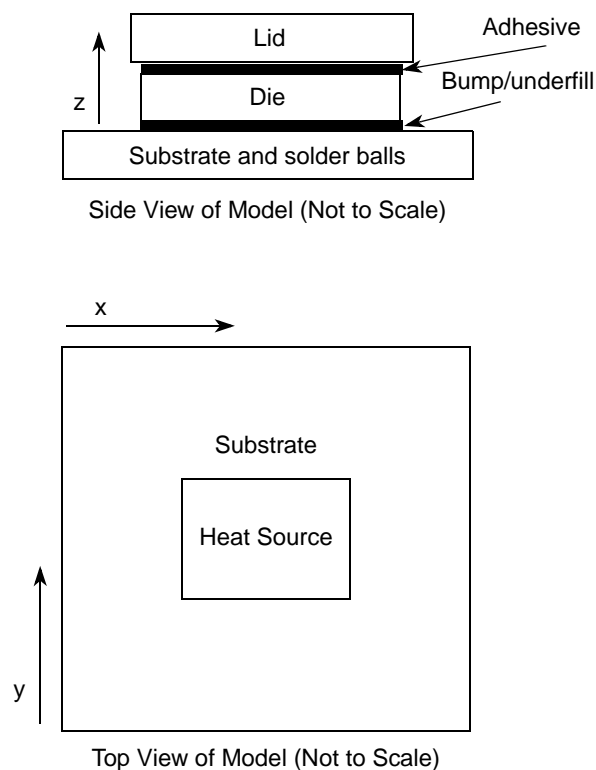

Figure 46. MPC8540 Thermal Model
2.0	<p>Section 1.1—Updated features list to coincide with latest version of the reference manual</p> <p>Table 1 and Table 2—Addition of SYSCLK to OV_{IN}</p> <p>Table 2—Addition of notes 1 and 2</p> <p>Table 3—Addition of note 1</p> <p>Table 5—New</p> <p>Section 4—New</p> <p>Table 13—Addition of I_{VREF}</p> <p>Removed Figure 4 DDR SRAM Input Timing Diagram</p> <p>Table 15—Modified maximum values for t_{DISKEW}</p> <p>Table 16—Added MSYNC_OUT to $t_{MCKSKEW2}$</p> <p>Figure 5—New</p> <p>Section 6.2.1—Removed Figure 4, “DDR SDRAM Input Timing Diagram”</p> <p>Section 8.1—Removed references to 2.5 V from first paragraph</p> <p>Figure 8—New</p> <p>Table 21 and Table 22—Modified “conditions” for I_{IH} and I_{IL}</p> <p>Table 23—Addition of min and max for GTX_CLK125 reference clock duty cycle</p> <p>Table 27 —Addition of min and max for GTX_CLK125 reference clock duty cycle</p> <p>Table 29—Addition of min and max for GTX_CLK125 reference clock duty cycle</p> <p>Table 30—VOH min and conditions; I_{IH} and I_{IL} conditions</p> <p>Table 31—Min and max for t_{MTXR} and t_{MTXF}</p> <p>Table 32—Min and max for t_{MRXR} and t_{MRXF}</p> <p>Figure 23 and Figure 24—Changed LSYNC_IN to Internal clock at top of each figure</p> <p>Figure 18—New</p> <p>Figure 18—New</p> <p>Table 36—Removed row for $t_{LBKHOX3}$</p> <p>Table 43—New (AC timing of PCI-X at 66 MHz)</p> <p>Table 53—Addition of note 19</p> <p>Figure 55—Addition of jumper and note at top of diagram</p> <p>Table 55: Changed max bus freq for 667 core to 166</p> <p>Section 16.2.1—Modified first paragraph</p> <p>Figure 46—Modified</p> <p>Figure 47—New</p> <p>Table 59—Modified thermal resistance data</p> <p>Section 16.2.4.2—Modified first and second paragraphs</p>